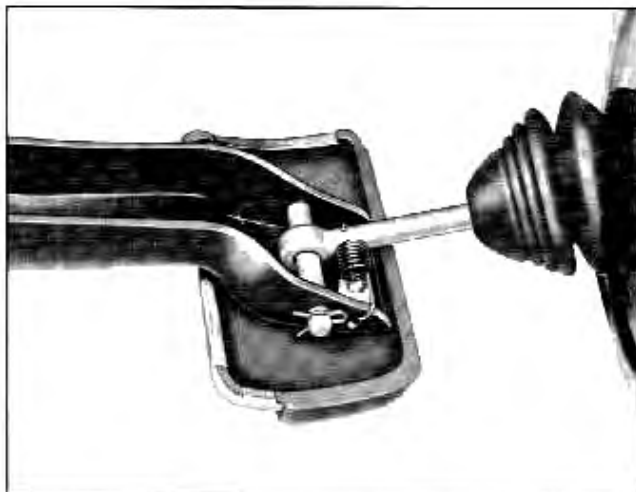

Fig. 5-34 Correct Assembly of Brake Pedal to Push Rod
5. Install push rod in pedal, fastening pin with hairpin retainer. Attach anti-rattle spring around push rod and connect to hole in brake pedal (Fig. 5-34).